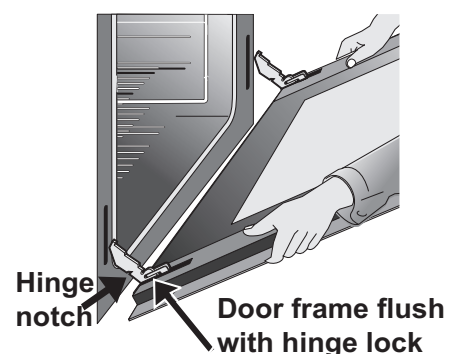

Figure 21: Removing and replacing oven door
4. Pull the bottom of the door toward you while rotating the top of the door toward the appliance to completely disengage the hinge levers (Figure 21).
1. Firmly grasp both sides of oven door along the door sides. Do not use the oven door handle (Figure 21).
2. Hold the oven door at the same angle as the removal position. Carefully insert the hinge levers into the oven frame until you feel the hinge levers are seated into the hinge notches. The hinge arms must be fully seated into the hinge notches before the oven door can be fully opened. (Figure 21).